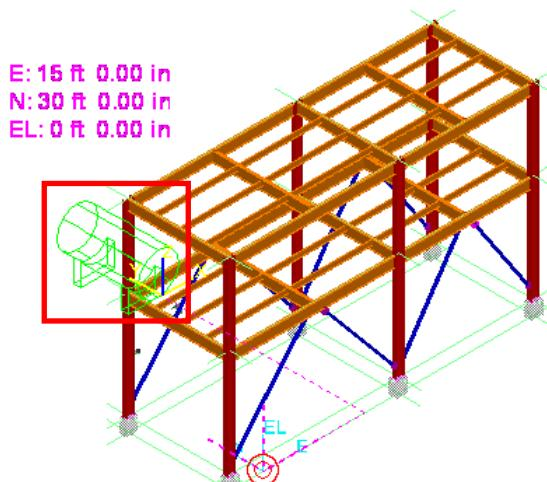

Figure 6. 11: Output: Placement of the Tank
29. Click in the graphic view to accept the placement of the tank as shown in Figure 6. 11.